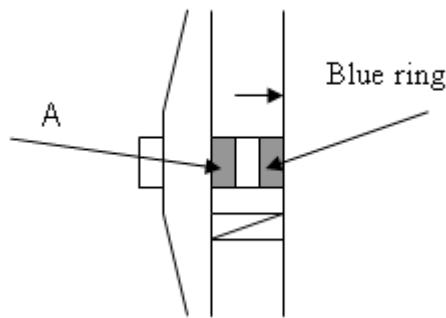

Figure 8
- F. Close the door and turn the door knob clockwise and see “A” parts to touch the “Blue ring” as Figure 8.